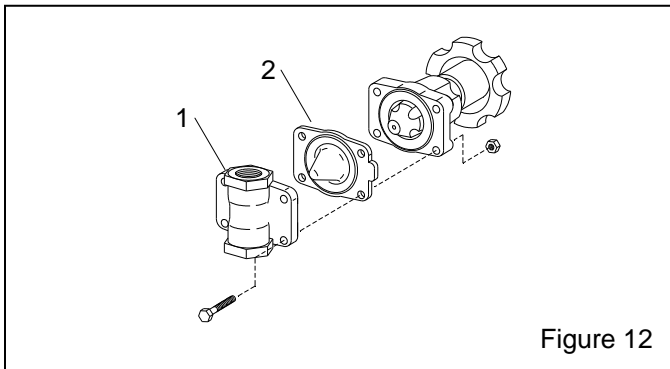

Figure 12
7.4 Abrasive Metering Valve, Figure 12